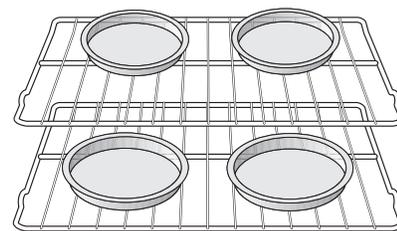
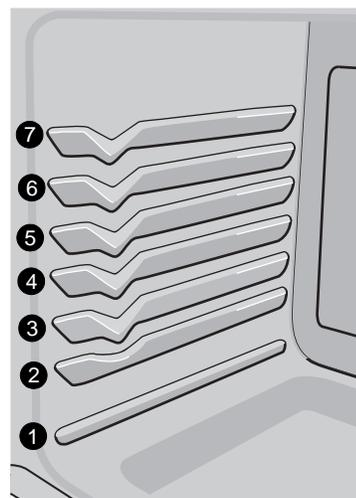

Figure 21: Baking on multiple levels
Figure 22: Oven rack positions
- When baking using two oven racks, position bakeware as shown in Figure 21. Allow at least 2 inches (5 cm) of space between bakeware for proper air circulation.
- For best results when baking cakes or cookies using two oven racks, place racks in positions 2 and 5 (See Figure 22) and place pans as shown in Figure 21.